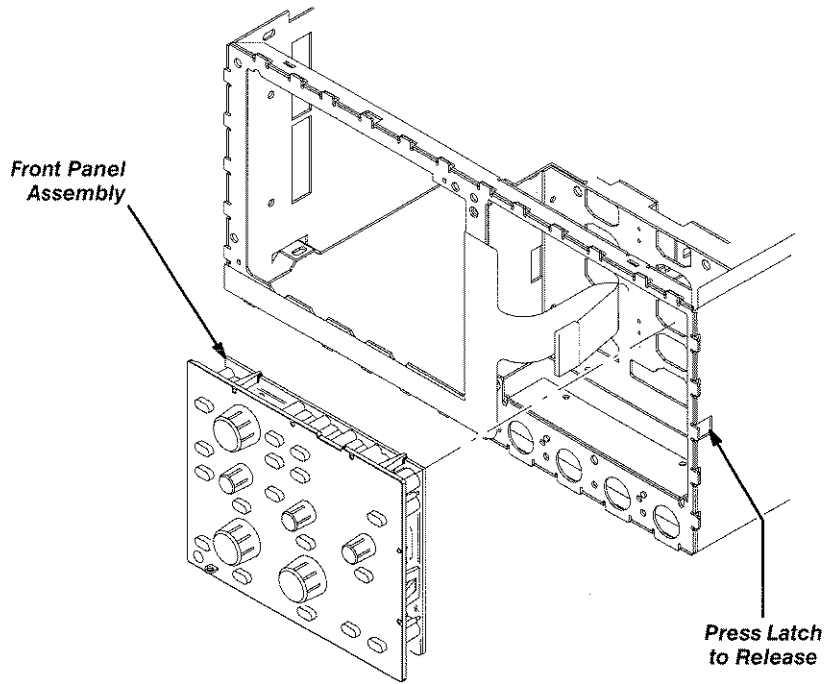

Figure 8-10: A62 Front Panel Module Removal
2. Insert a flat-bladed screwdriver into the slot at the front-right of the chassis. Push inwards to release the snap lock at the right side. (See Figure 8-10.)